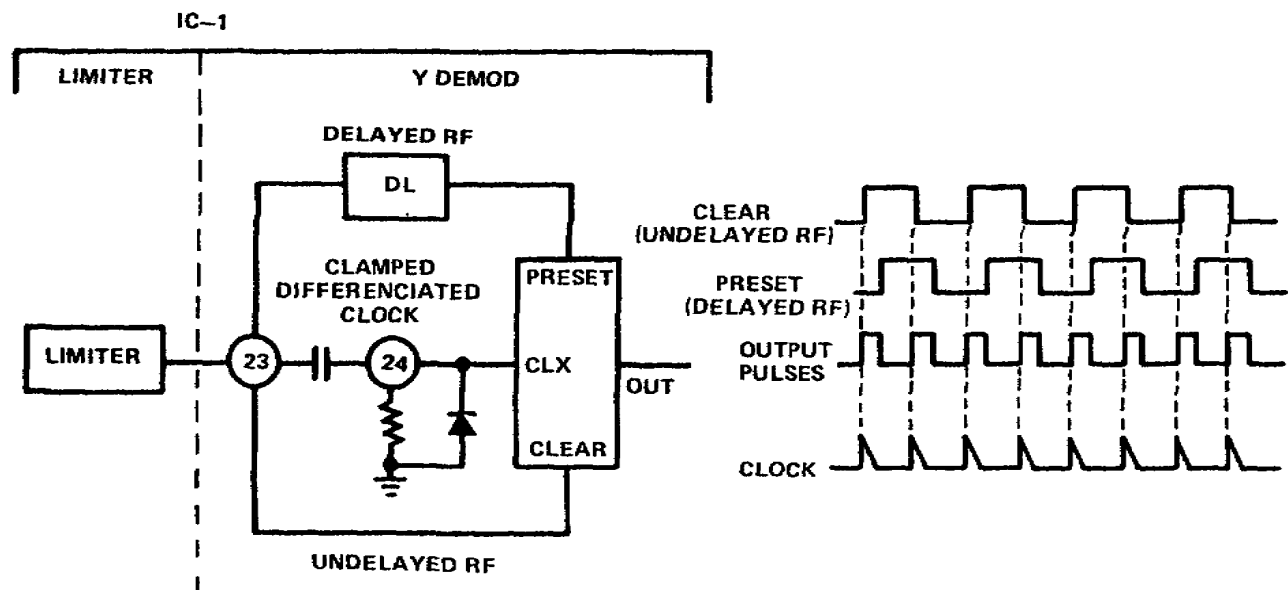

Figure 4-3. Y-FM demodulator
1. Refer to Figure 4-2 (fo) at end of lessons. The Y-RF signal from the HF-3 board (fig 4-3) is supplied to pin 1 of IC-1 on the DM-7 board. Pin 1 is the input to a limiter stage that is necessary to eliminate amplitude variations in the Y-RF signal prior to demodulation. The output of the limiter is split into two paths in the Y demodulator. One path goes directly to the phase comparator. The other path delays the pulse-coded luminance before it reaches the phase comparator. This delay is constant for all frequencies. These two signals are then mixed to produce a series of pulses whose period is one-half the input luminance frequency. These pulses are then integrated by the low-pass filters, FL1 and FL2, to the luminance DC levels found in the video signal.